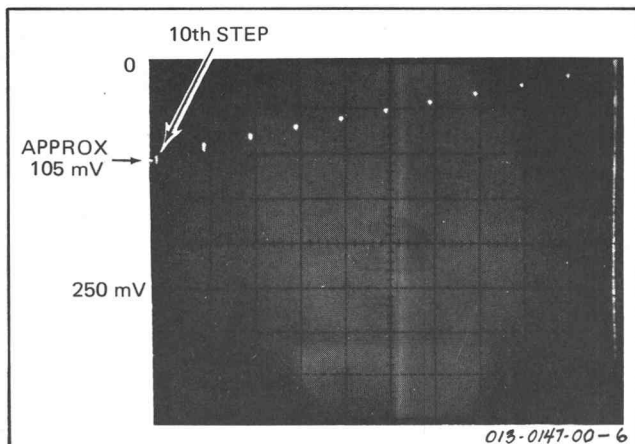

Fig. 5-1. Illustration of step 6, part f.
f. CHECK—Last spot on left (right for Negative Test Unit) is ≤ 250 mV (≤ 5 divisions) from the top graticule line. See Fig. 5-1.